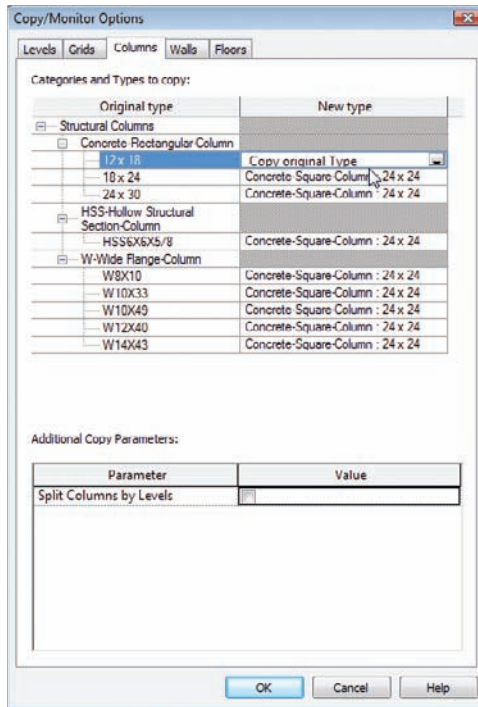

FIGURE 20.10 Changing to Copy Original Type
2. Notice that Revit will replace any column indiscriminately with a 24"-square concrete column. Click into the first column category and replace the entry with Copy Original Type (see Figure 20.10).